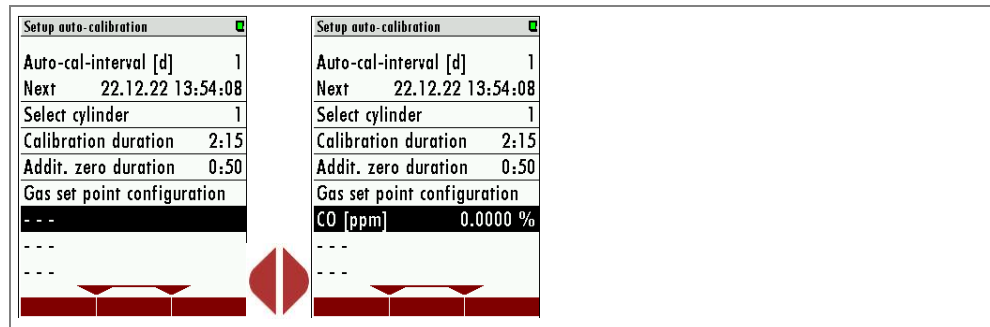

Fig.2
- ▶ Go to the list "GAS SET POINT CONFIGURATION" (Fig.2).